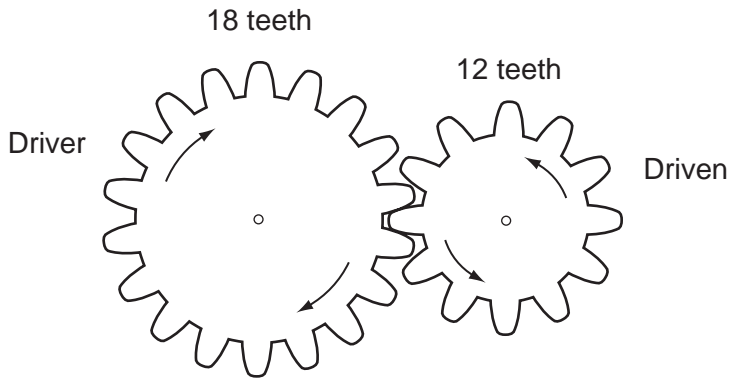

Fig. 2
- 5 Fig. 2 shows a gear system.